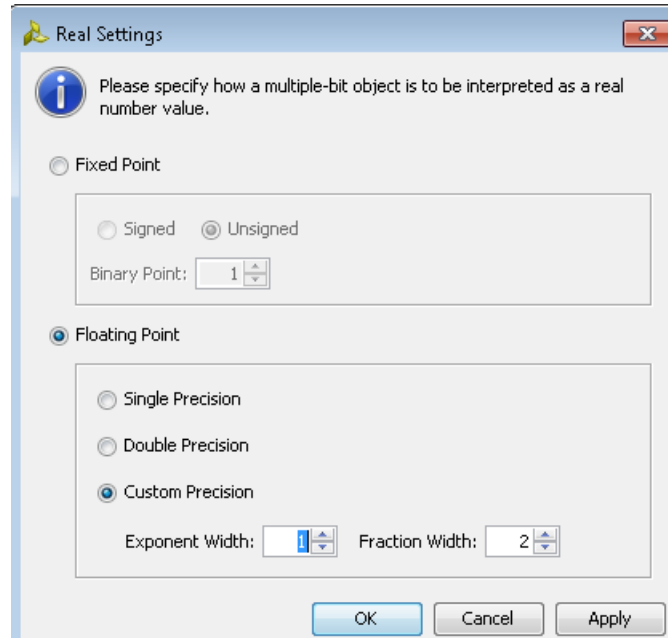

Figure 5-7: Real Settings Dialog Box
- Real radixes cause bus values to be interpreted as fixed point or floating point real numbers, as determined by the settings of the Real Settings dialog box, shown in Figure 5-7.